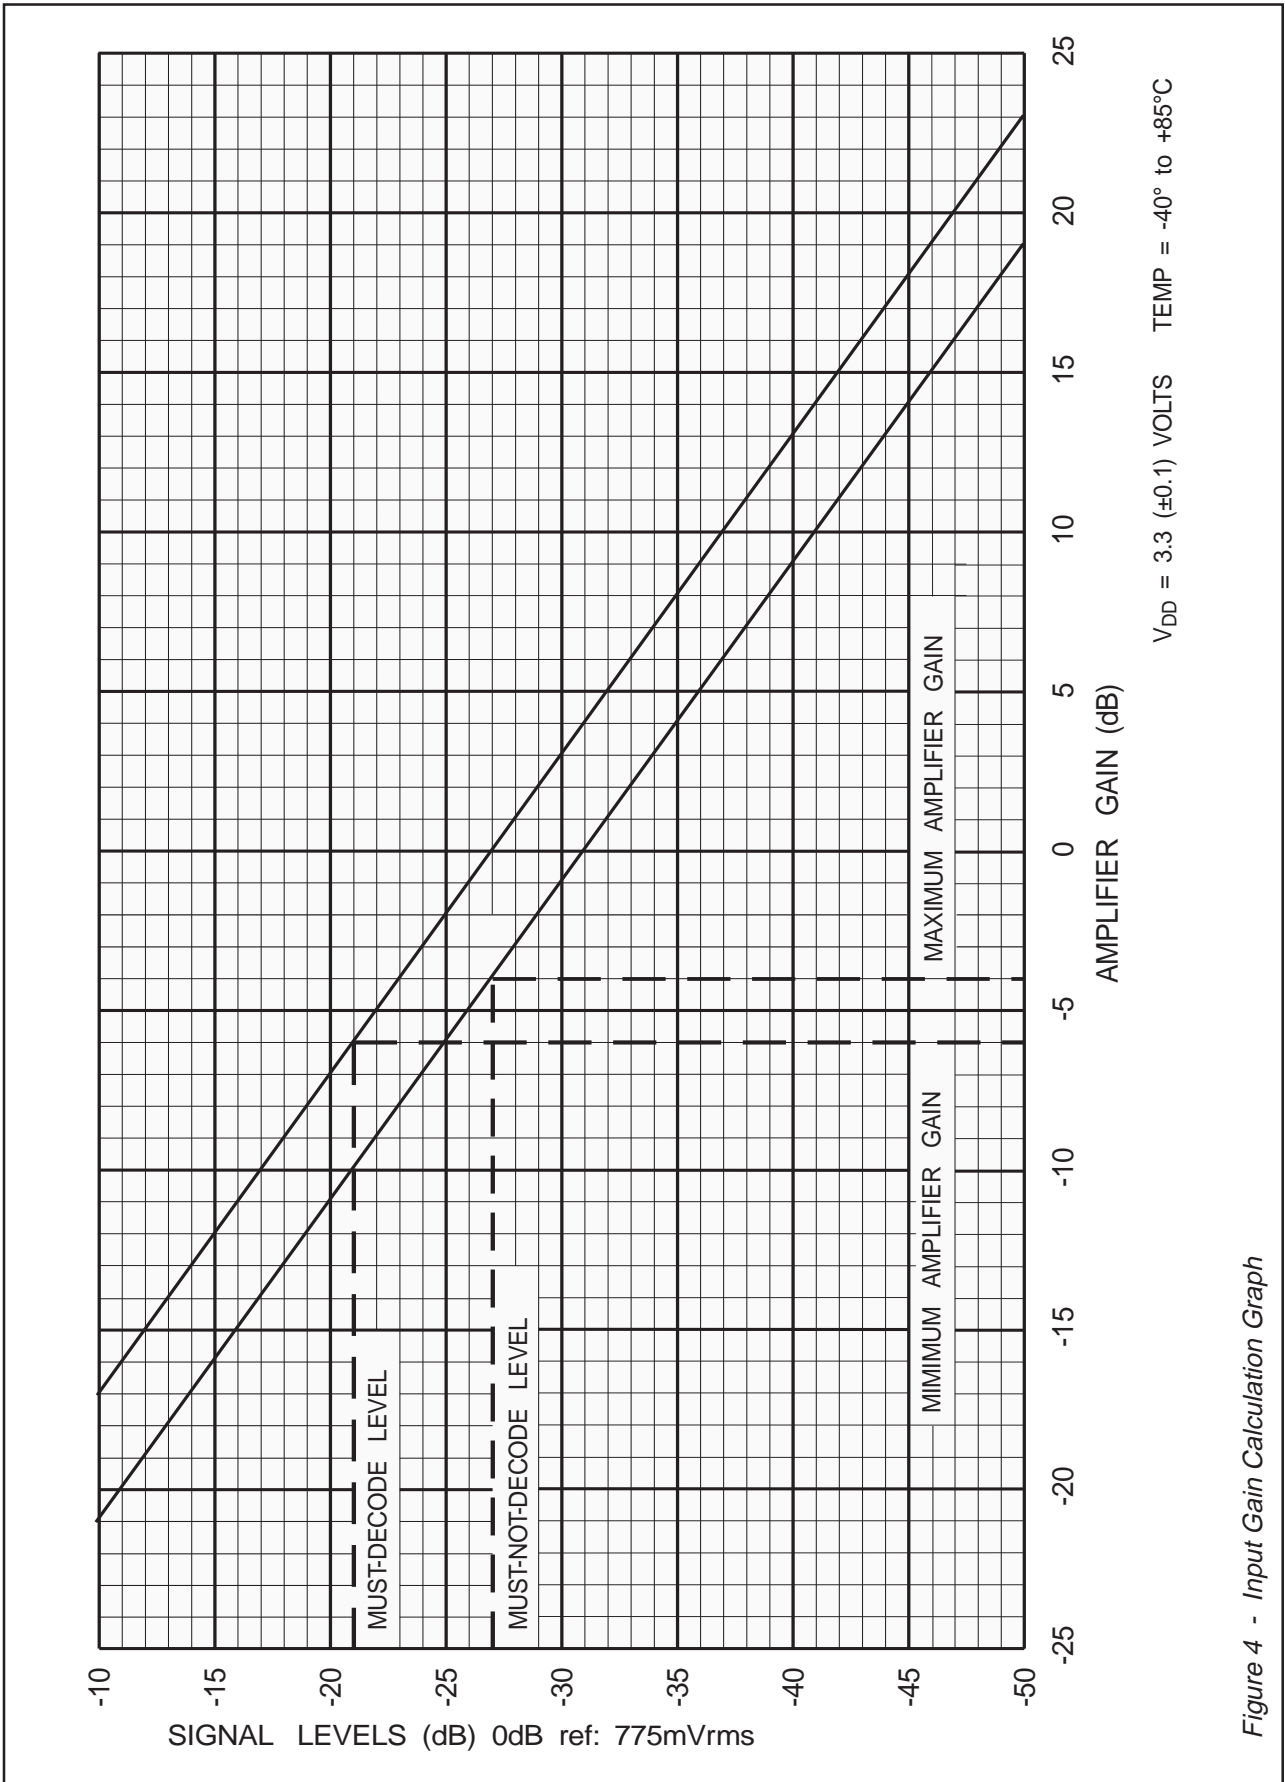

Figure 4 - Input Gain Calculation Graph
10	Signal In (-) : the input gain adjusting signal amplifier. Refer to Figure 4
- The values of the Input Amp gain components illustrated are calculated using the Input Gain Calculation Graph (Figure 4). When calculating input gain components, for correct operation, it is recommended that the values of resistors R₁ and R₄ do not go below 100kΩ.
With reference to Figure 4, the following steps will assist in the determination of the required gain/attenuation.
It is recommended that the designed gain is near the center of the calculated range. The graph in Figure 4 is for calculations for the input gain components for an MX631 using a V_{DD} of 3.3 (± 0.1) volts.